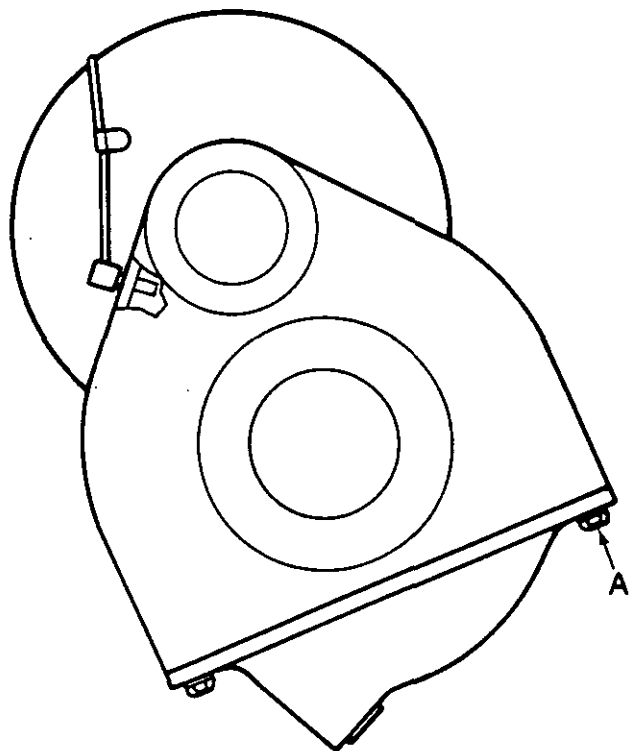

FIGURE 5. POSITION OF BREATHER
3. Clean the new breather and install as shown in Fig. 5.